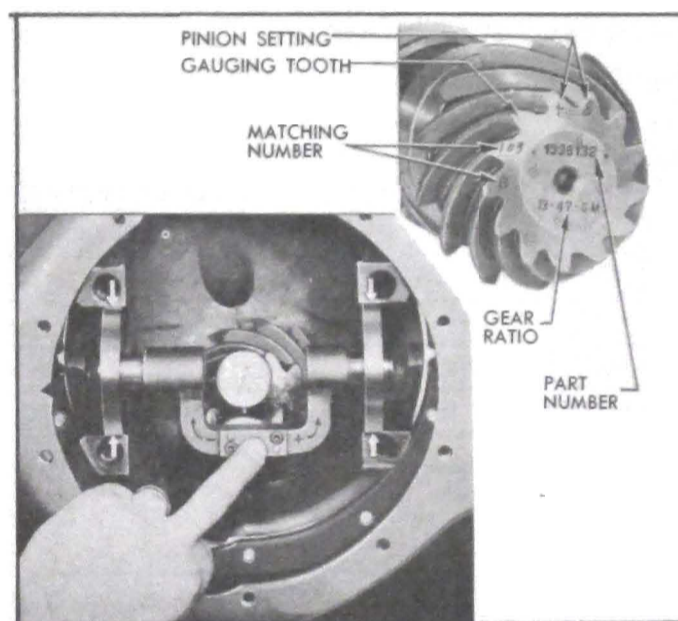

Figure 6-21—Checking Pinion Setting With Indicator Gauge
4. Check matching numbers on new ring gear and pinion to make sure the two parts have not been mixed with another gear set. See figure 6-21.
All Buick ring and pinion gear sets are selectively matched for best operating position and proper tooth contact. After matching, a serial number is etched on one tooth of pinion and on rear face of gear to aid in keeping matched parts together. See figure 6-21. Parts having different matching serial numbers must never be used together.
In order to make it possible to duplicate the matching setting of the pinion when the gear set is installed in a third member housing, the pinion is marked to indicate this setting with reference to the "nominal" setting. The amount in thousandths of an inch plus or minus the "nominal" setting is etched on the small end of the pinion tooth. See figure 6-21. When a pinion is marked "+" (plus) it means that the pinion must be set at a distance from the centerline of
8. Rotate the pinion until the blank tooth between the matching number and the pinion setting mark is slightly counterclockwise of top center (at about 11 o'clock). This tooth is called the gauging tooth (fig. 6-21) because it is used for locating and gauging during production and should therefore be used for gauging in service.
9. Place the indicator gauge in the carrier (fig. 6-21) with: